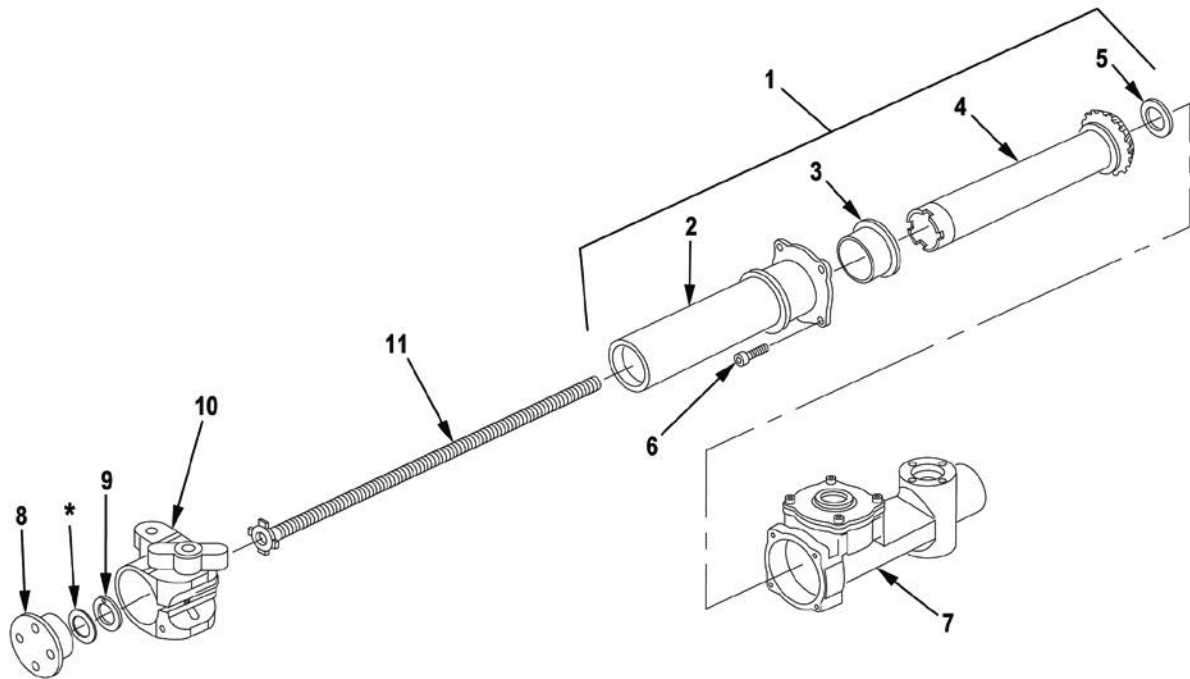

Figure 2. Disassembly of Upper and Lower Mechanical Housings.
6. Using face wrench socket, remove machine thread plug (Figure 2, Item 8), thrust washer bearing (Figure 2, Item 9), and shims if present. Discard thrust washer bearing.
7. Loosen wing nut and remove block clamp (Figure 2, Item 10) from lower mechanical housing (Figure 2, Item 1).
8. Remove straight shaft (Figure 2, Item 11) from lower mechanical housing (Figure 2, Item 1).
9. Remove four socket head capscrews (Figure 2, Item 6) and remove lower mechanical housing (Figure 2, Item 1) from upper mechanical housing (Figure 2, Item 7).
10. Remove spur gearshaft (Figure 2, Item 4) from mechanical housing (Figure 2, Item 2).
11. Remove and discard sleeve bearing (Figure 2, Item 3) from mechanical housing (Figure 2, Item 2).
12. Remove sleeve bearing (Figure 2, Item 5) from spur gearshaft (Figure 2, Item 4). Discard sleeve bearing.